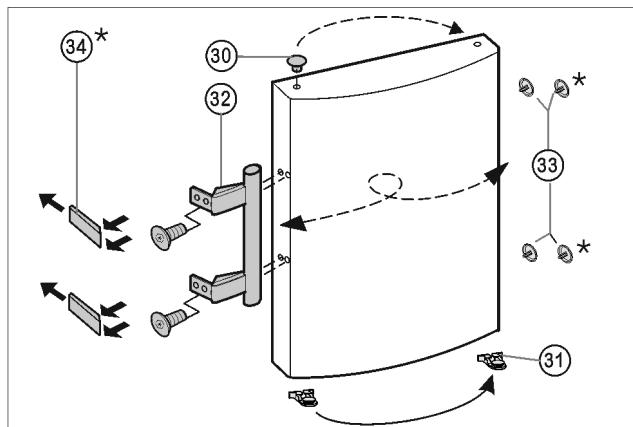

Fig. 9
- ▶ Pull the *Fig. 9* (30) plugs out of the door bearing bushes and move them to the other side.
- ▶ Remove the door handles *Fig. 9* (32), plugs *Fig. 9* (33) and pressure plates\* *Fig. 9* (34) and swap them over to the opposite side.